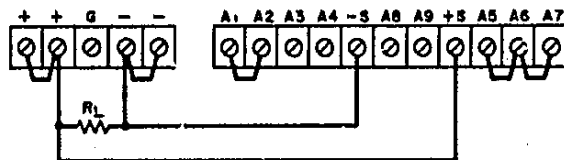

Figure 3-3.
a. Turn-off power supply and arrange rear terminal strapping pattern as shown in figure 3-3. The sensing wires will carry less than 10 ma and need not be as heavy as the load wires. It is recommended that sensing and load wires be twisted and shielded. (If shield is used, connect one end to power supply negative terminal and leave the other end unconnected.)